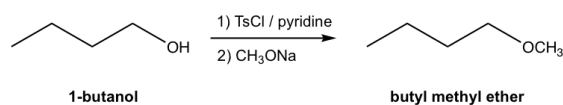

Figure 7.6j Synthesis scheme of butyl methyl ether from 1-butanol (structures of intermediates are NOT shown)
- Figure 7.6j represents the common and conventional way to show the multiple-step synthesis in organic chemistry. The reaction conditions (reagent, catalyst, solvent, temperature etc.) for each step are shown on top and bottom of the equation arrow. Only the structures of starting material and final product(s) are shown, and the structures of the intermediate products for each step are not included.